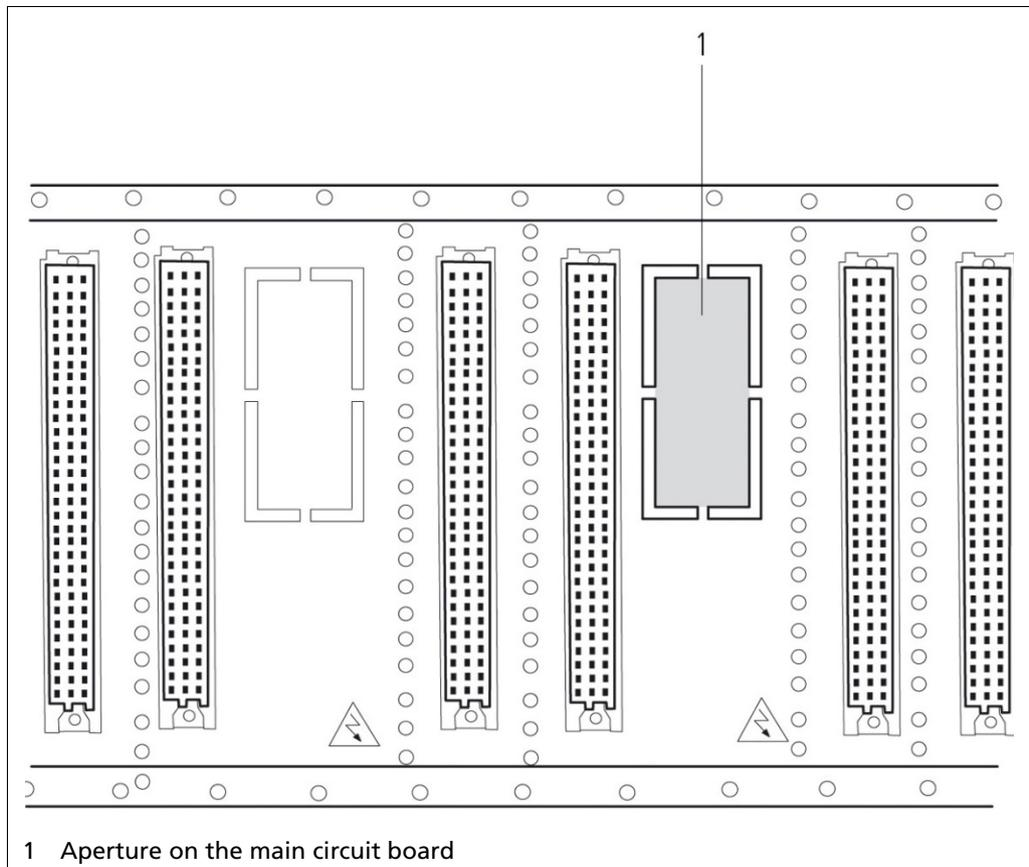

Fig. 81 EVU LB 452, main circuit board
6. Pull carefully on the fuse (Fig. 81, Item 1) until the top part is fully removed.
7. Remove the plastic covering from the fuses (Fig. 81, Item 2).